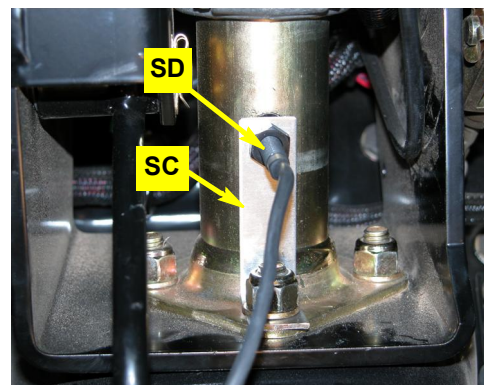

Figure 1d: Installed sensor arm
- d. Attach sensor **SD** to the bracket **SC**. Fasten the sensor arm to the steering shaft shield flange with the nut removed at step 1c (Figure 1d).